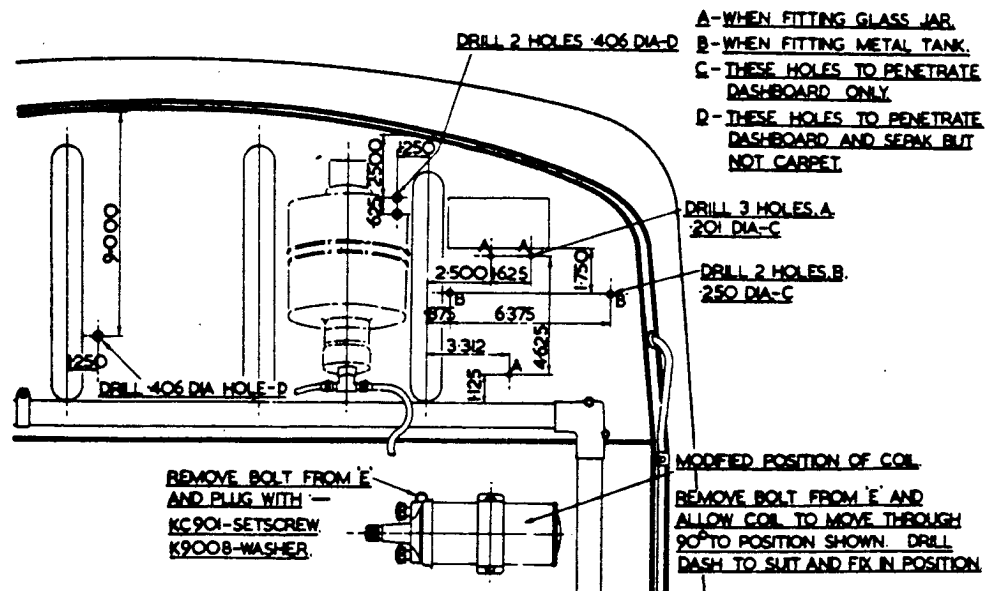

FIG. 3.
1. Drill the dashboard as shown in Fig. 3.